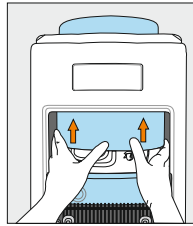
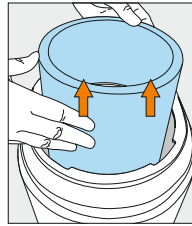

Figure 21
Figure 22
4. Use fingers of both hands to lift up and remove the insulation jacket covering the reservoir, from the cooler opening (Figure 21 and Figure 22).